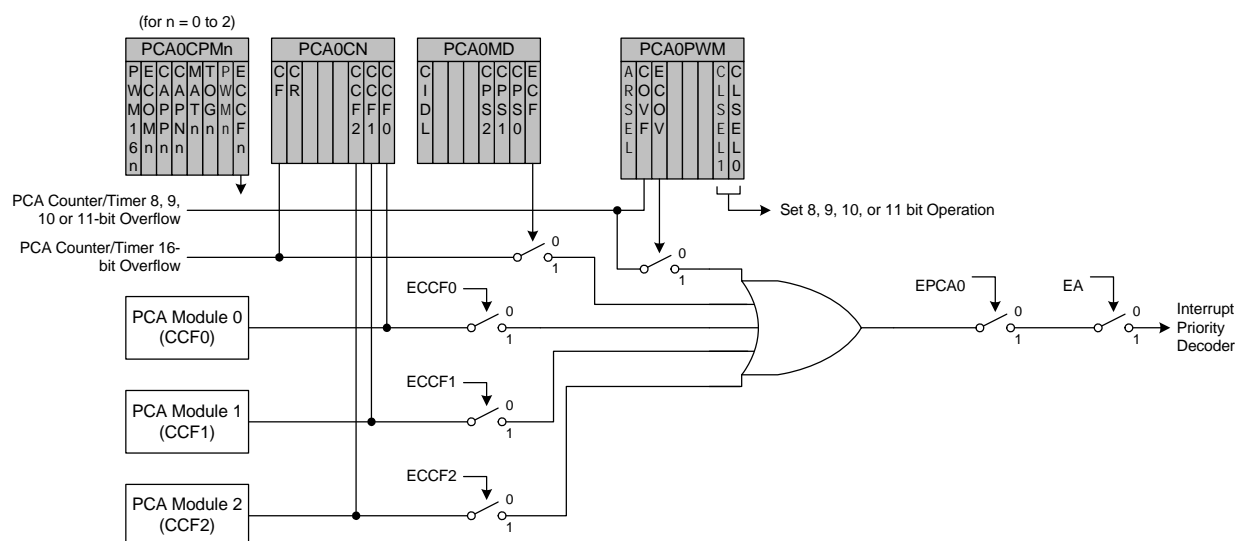

Figure 34.3. PCA Interrupt Block Diagram
Figure 34.3 shows a diagram of the PCA interrupt tree. There are eight independent event flags that can be used to generate a PCA0 interrupt. They are: the main PCA counter overflow flag (CF), which is set upon a 16-bit overflow of the PCA0 counter, an intermediate overflow flag (COVF), which can be set on an overflow from the 8th, 9th, 10th, or 11th bit of the PCA0 counter, and the individual flags for each PCA channel (CCF0, CCF1, and CCF2), which are set according to the operation mode of that module. These event flags are always set when the trigger condition occurs. Each of these flags can be individually selected to generate a PCA0 interrupt, using the corresponding interrupt enable flag (ECF for CF, ECOV for COVF, and ECCFn for each CCFn). PCA0 interrupts must be globally enabled before any individual interrupt sources are recognized by the processor. PCA0 interrupts are globally enabled by setting the EA bit and the EPCA0 bit to logic 1.